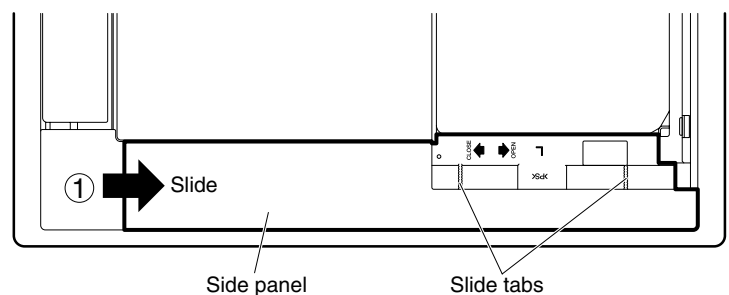

Fig. 9-2
- (1) Slide the side panels in the direction of the arrow ① to remove them (2 locations, left and right). (Fig. 9-2)